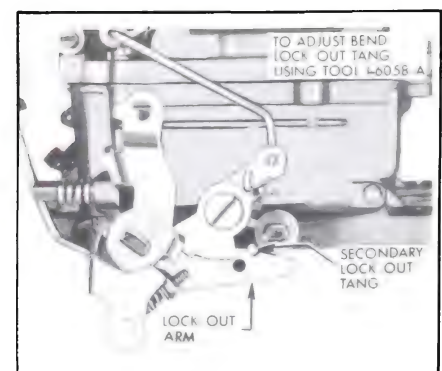

Figure 3-90—Secondary Throttle Lock-Out Adjustment
8. **Adjust Secondary Throttle Lock-Out.** Open primary throttle valves slightly to clear fast idle cam and manually open and close choke valve. Lock-out tang on secondary throttle should freely engage in notch of lock-out dog while barely missing edge of notch. If necessary to adjust, bend tang on secondary throttle lever using Tool J-6058-A. See Figure 3-90.